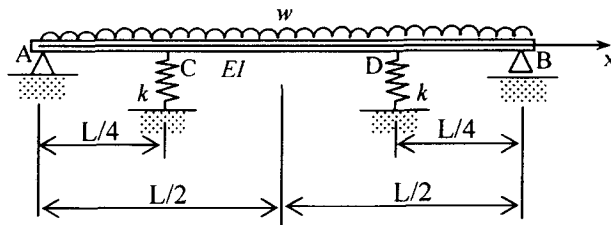

Figure 4
- (b) Figure 4 shows a simply supported beam with two elastic springs at C and D. The beam is subjected to a uniformly distributed load w . The following expression for lateral displacement field v has been suggested :